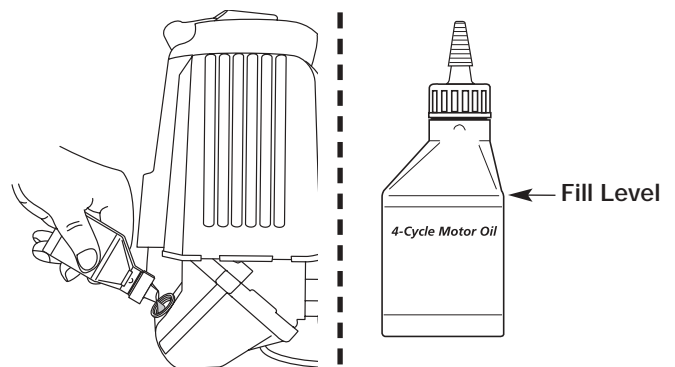

Fig. 19
**NOTE:** Use the bottle and spout saved from initial use to measure the correct amount of oil. The top of the label on the bottle measures approximately 3.4 ounces (100 ml). Check the level with the dipstick. If the level is low, add a small amount of oil and recheck. Do not overfill (Fig. 19).